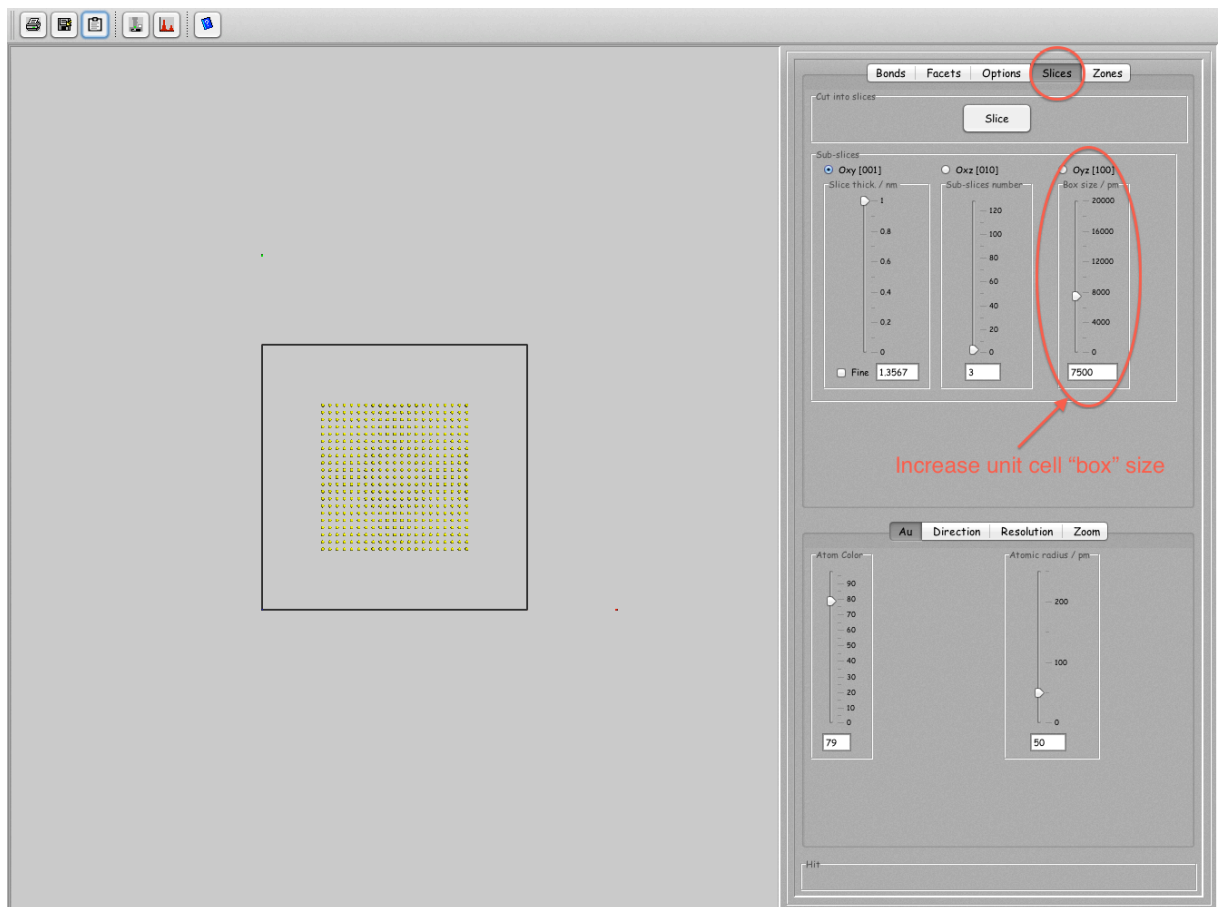

Figure 6: Change the box size, in order to be able to rotate the particle inside the box (without having atoms positioned outside the box).
2. Select the *Slices* tab and use the *Box size* slider to increase the unit cell size (box size) (Fig. 6).
### 3.2 Setting the model size (Figure 6)